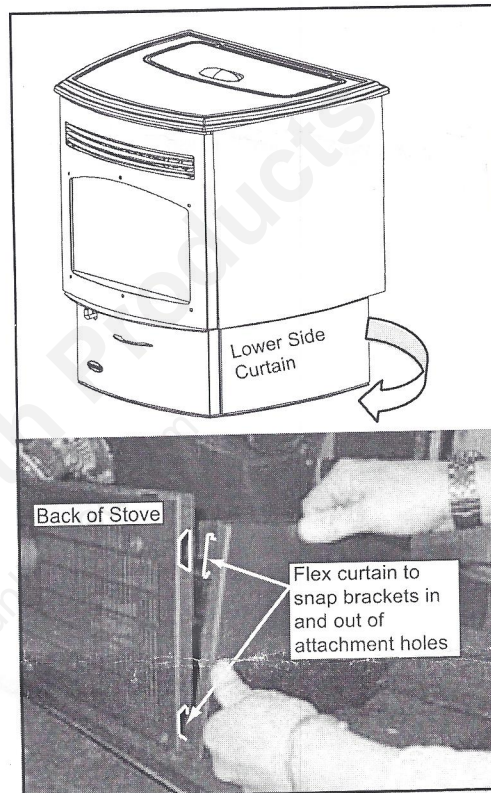

Figure 2
5. Remove the right lower side curtain by releasing bracket from attachment holes in the back and then swing it to the front and lift off of the appliance. **Figure 2.**